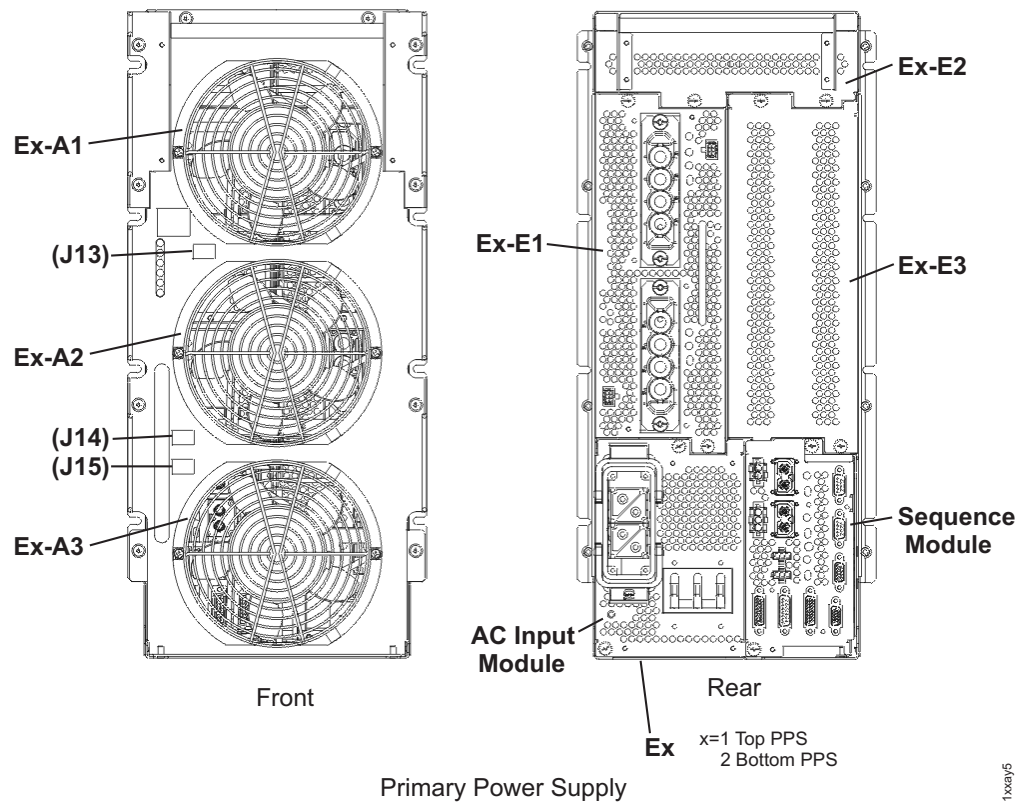

Figure 1. Locations for primary power supplies
- a. At the rear of Rack-1, observe the top rear of a primary power supply (PPS). Refer to Figure 1 on page 7, location Ex-E2. If the feature is not installed, there will be a sheet metal blockout plate as shown. If the feature is installed, there will be a booster power module installed with a cable going to the 208VDC bus bars to the right of the PPS.
8. Ensure the booster power module (Ex-E2 in Figure 1) cable is connected at both ends (to the booster power module and to the bus bar). Do this for both PPSs and then continue with the next step.